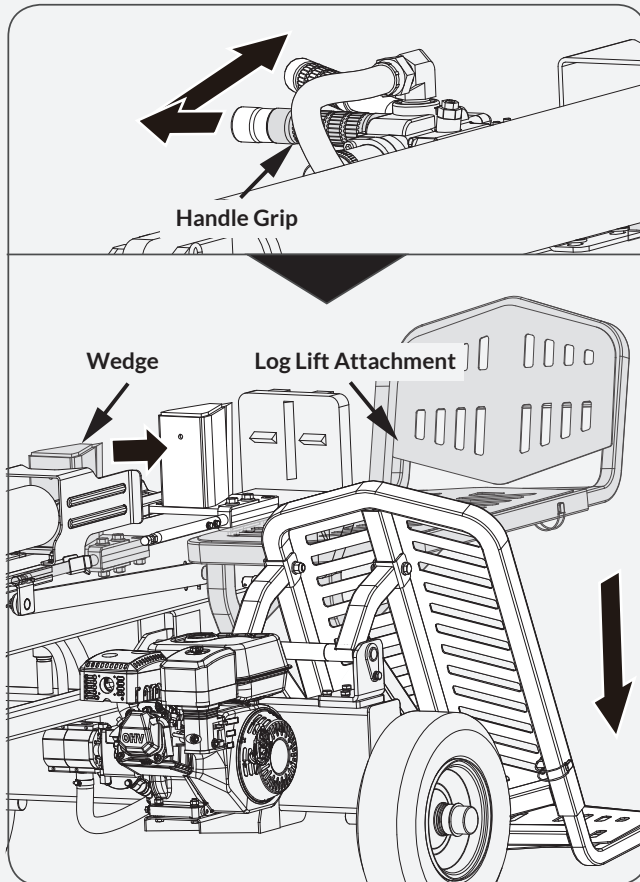

Figure 24a
1. When the log lift table attachment is flush with the beam, pull the control lever of the control valve outward while pushing it forward. then the wedge moves forward, and at the same time, the log lift table attachment will go downward. When it lands, release the control lever. (See **Figure 24a**)